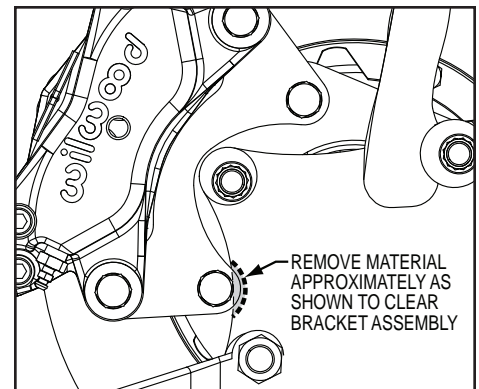

Figure 3. Spindle Modification
- Using the new bracket assembly (1) as a template, remove material from the mounting flange of the OEM spindle in the area shown in Figure 3. Remove only the minimum amount of material necessary to clear the new bracket.